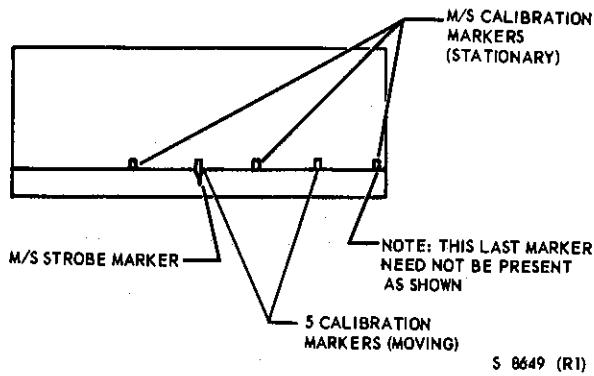

Figure 4-54. Pre-Operational Check Step 12
12. Set FUNCT switch to position 5 and set the DELAY switch such that the number 5000 is preset on the difference display readout. The CRT display should appear as shown in figure 4-54.